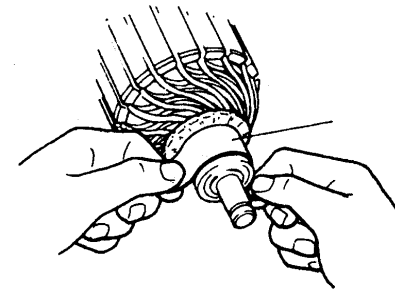

Figure 6.2-3
- (1) Inspect the collector for contamination or burning out. A piece of sandpaper or lathe can be used to make rectification appropriately. See Figure 6.2-3.